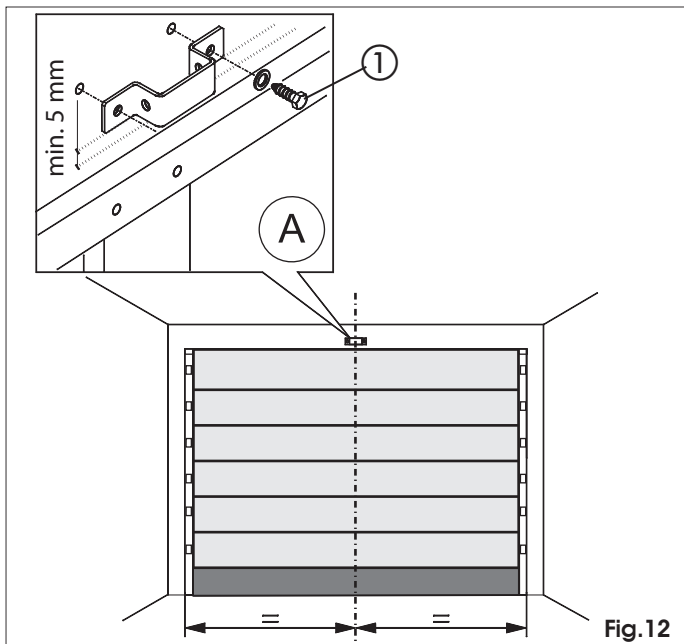

Fig. 12
- 1) On the architrave, mark a line corresponding to the vertical mid-point of the door (Fig. 12).
- 3) Position the securing bracket of the front fitting, so that the lower edge is at least 5 mm above the intersection point of the lines and centred with respect to the vertical line (Fig. 12). Also refer to paragraph 7.2 for correct positioning of the bracket with respect to the fitting point on the door.
- 5) Next, drill and install, using the screws (ref. ① Fig. 12) **NOT** supplied.